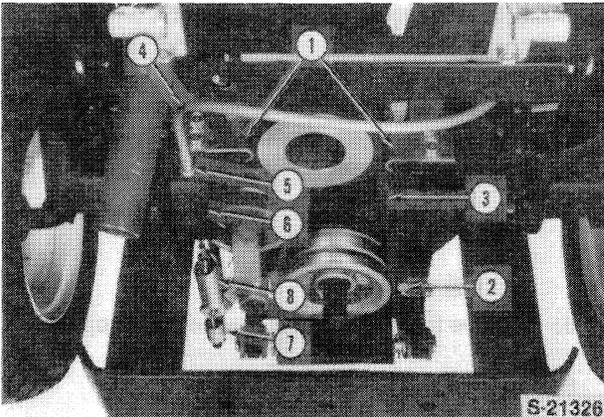

Figure 17
- Loosen the PTO control cable locknut (5), Figure 17, and unscrew the locknut to allow maximum slack in the cable and conduit assembly.
- Remove the PTO tightener lower spring (7).
- Disconnect the PTO cable from the tension spring (8) and remove the cable assembly bracket (6), Figure 17.
- Remove the drive belts (3) from the pulleys.
- Loosen the belt guide bolts and slide the guides (1) away from the bolts (3), Figure 17.